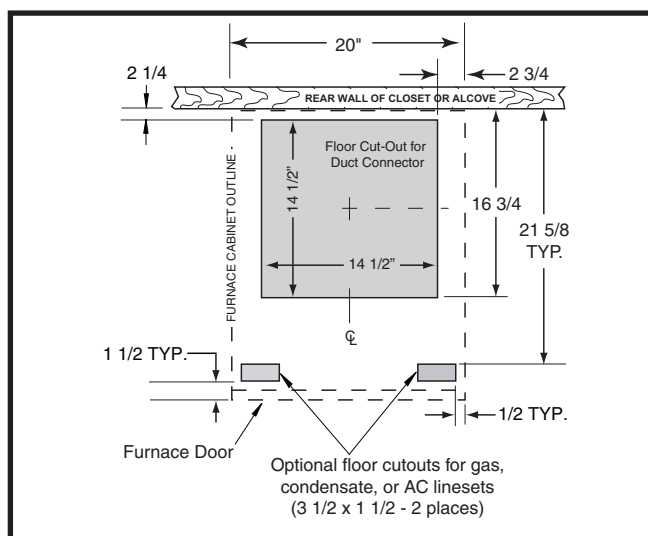
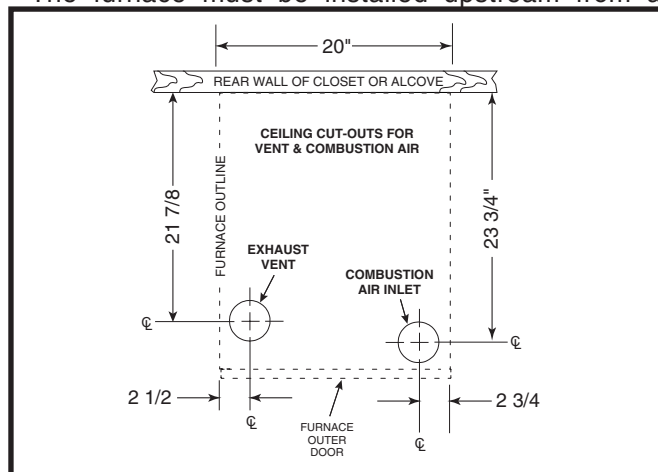

Figure 10. Floor Cutout Dimensions
Figure 11. Ceiling Cut-Out Dimensions
To locate standard ducts, see Figure 10. For round ducts, see Figure 11.
1. Measure from the rear wall or alcove and mark the centerline of the cut-out on the floor. Using the centerline as a starting point, draw the rest of the duct cut-out to the dimensions shown in Figure 10.
5. Measure and drill gas hole and cut out for cooling coil (if applicable). See Figure 10 or Figure 11.
Cut-outs in the ceiling and roof must be carefully located to avoid misalignment of the furnace, combustion air piping, and vent piping. See Figure 10.